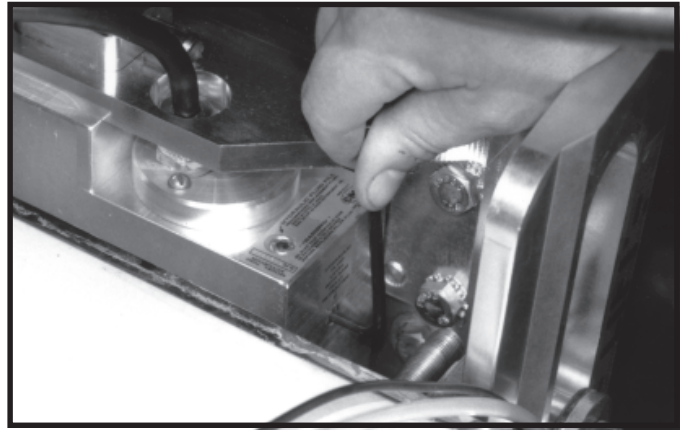

FIG. 26
3. Run the Power-Lift until the actuator rod is 3" extended (Fig. 25), then remove the 1/8" stainless socket **level** plug. (Fig. 26)